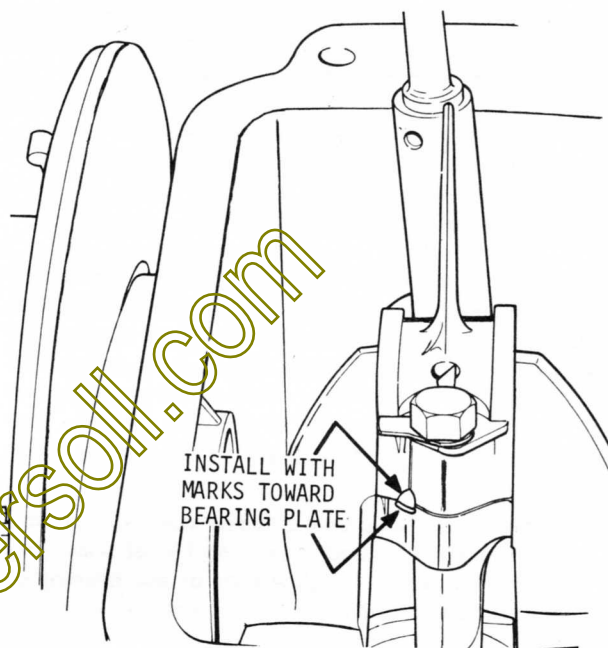

FIGURE 58 ALIGN MATCHING MARKS ON ROD AND CAP
- B. It is important that marks on connecting rod and cap line up and face flywheel end of engine. (See Figure 58). Move crankpin into position to allow installation of cap.